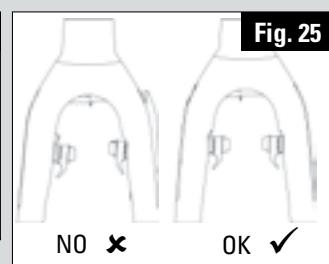

Fig. 25
3. Adjusting spring tension (2mm Allen key, Fig. 25): adjust the tension of the springs to make the movement of the levers symmetrical.